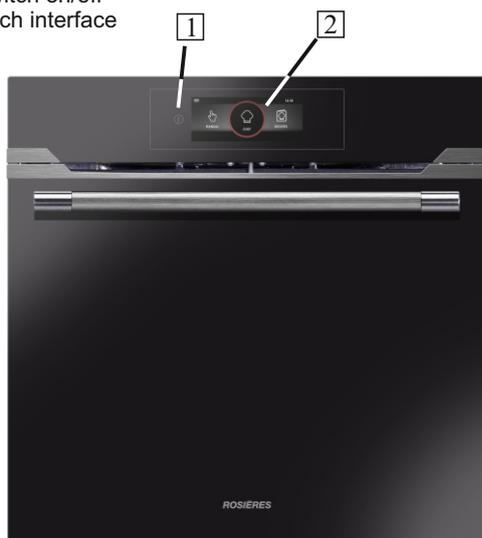

Figure 1
2. TFT touch interface (Figure 1)